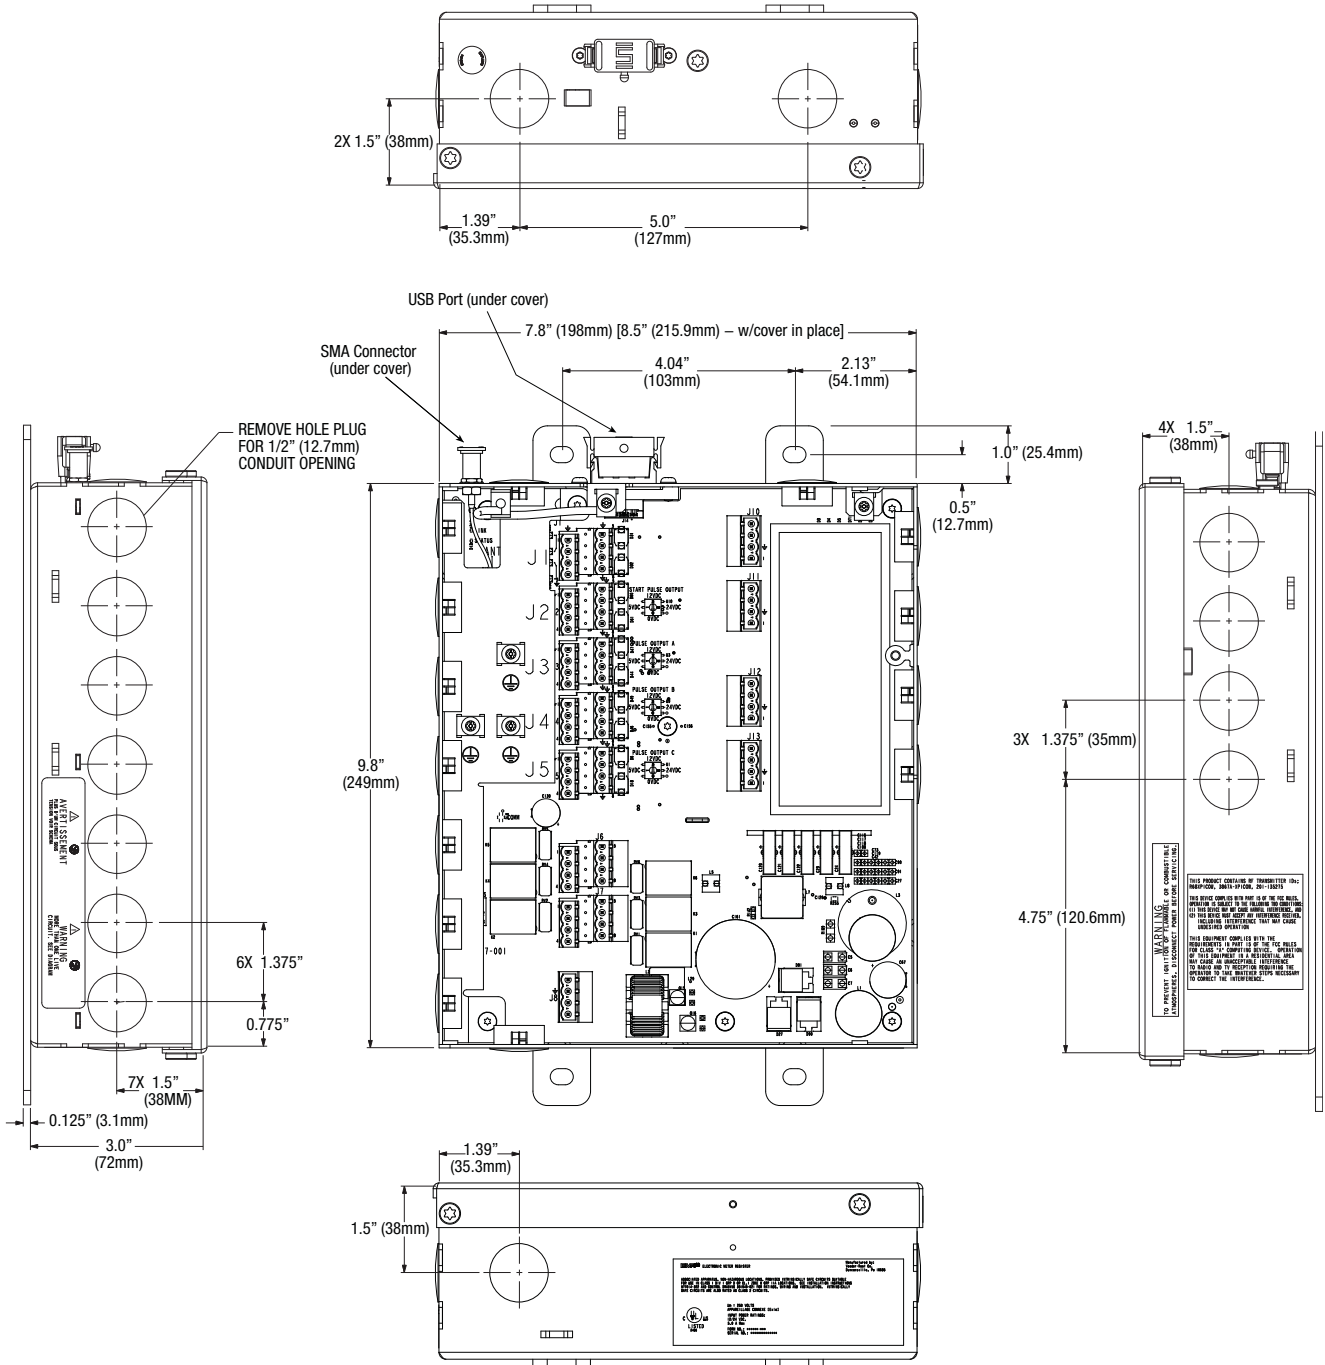

Figure 2. IB Physical Dimensions (Shown With Cover Removed)
1. The physical dimensions of the Interconnection Box (IB) are shown in Figure 2. The IB is installed in the truck's cab either under the seat, mounted on the wall inside the cab, mounted to the passenger side of the "dog house" in cab-over trucks, or mounted to a custom-made bracket that can also support the optional printer. Use four, 3/16" (4 mm) bolts to mount the IB to the mounting surface. In the event of limited access, the front cover of the IB can be completely removed rather than swung open, by removing four #15 Torx screws. Put the excess coils of cable under the seat or clamp them to the IB mounting stand.